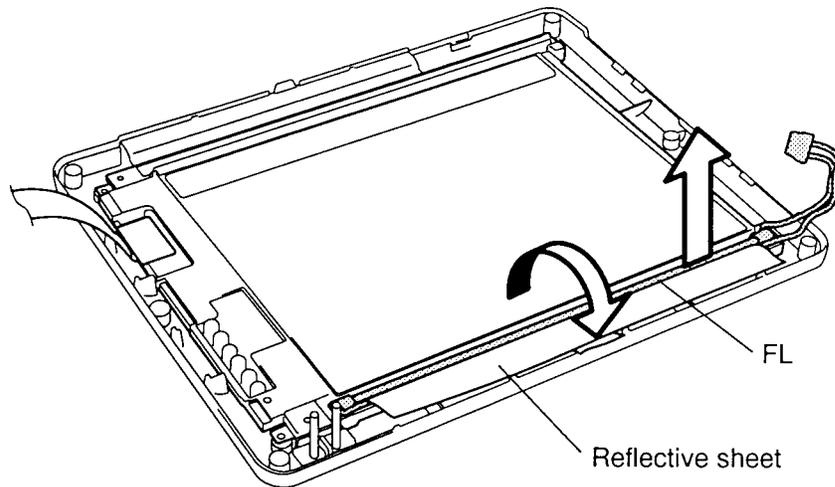

Figure 4-27 Removing the T200CS FL
6. Lift up the **reflective sheet** covering the LCD panel (Figure 4-27).
7. Lift out the **FL** (Figure 4-27).
1. Place the **FL** on the **FL unit** and cover the FL using a **reflective sheet** (Figure 4-27).